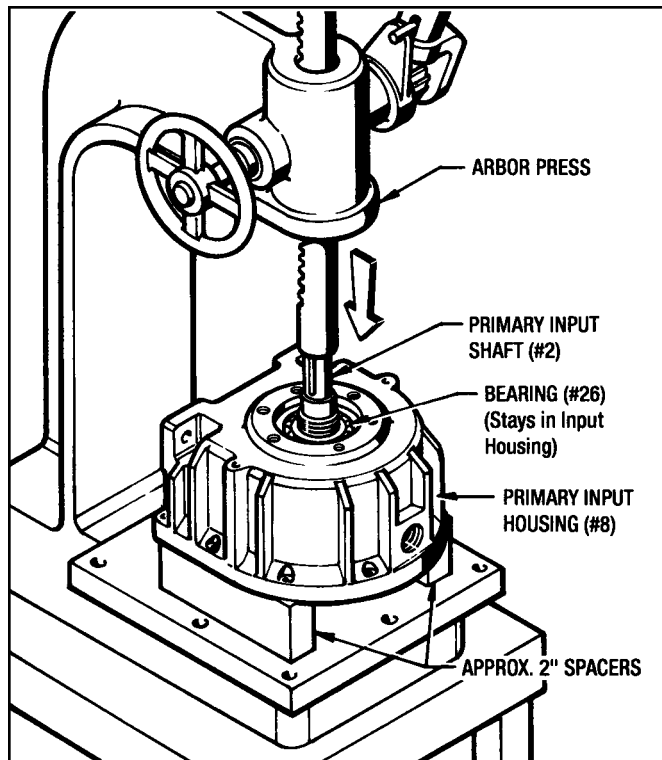

Figure 7.1 - Removing Primary Input Shaft
1. Use an arbor press to press the Input Shaft out of the Input Housing. (See Figure 7.1)
1. Unscrew (6) Screws (#100) and remove them. Take the Bearing Retainer (#16) off over the input shaft, being careful not to damage the lip of the Oil Seal (#32).
5. Using the same procedure as described in 7-7, remove the Quill Input Shaft (#2) from the housing with an arbor press (See Figure 7.1).